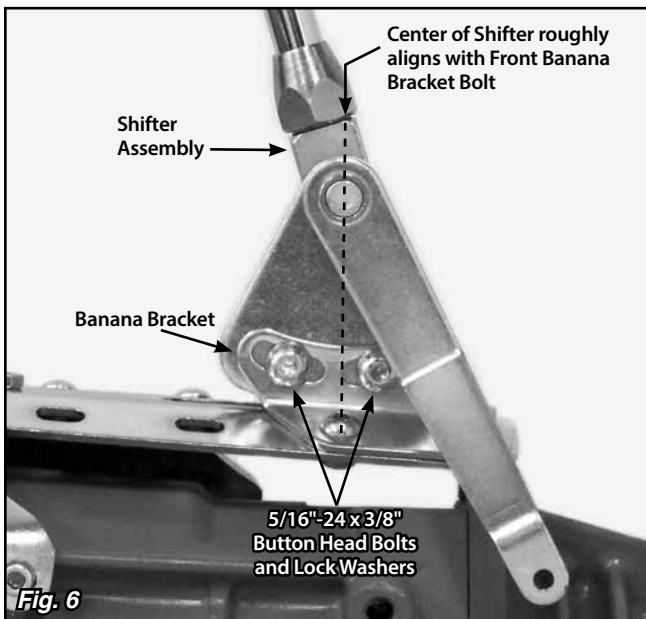

Fig. 6
Transfer that measurement to the transmission (or to the engine/transmission assembly if the engine is not installed in the vehicle). Mark that location on the shifter's main plate. The holes in the main plate that are closest to your mark are where the **FRONT** banana bracket bolts will need to be installed. **Fig. 6**
Step 10: Make sure the two 5/16"-24 x 3/8" button head bolts and lock washers that attach the driver side banana bracket to the shifter assembly (in the curved, slotted holes) are tight. Before tightening the shifter assembly down to the main plate, move the shifter lever through all of the gear positions. Make sure that the shifter lever and knob do not come in contact with the dash or the seat. The shifter assembly can be tilted forward or backward if needed by loosening the 5/16"-24 x 3/8" button head bolts and lock washers in the curved, slotted holes in the driver side banana bracket. **Fig. 6**
Double check to make sure that the bolts connecting the **driver** side banana bracket to the shifter assembly are tight. **Fig. 6**